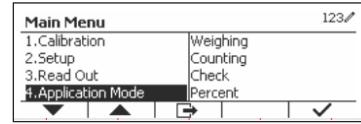

Figure 85
1. Press the  button to enter the Main Menu. (See Figure 85)